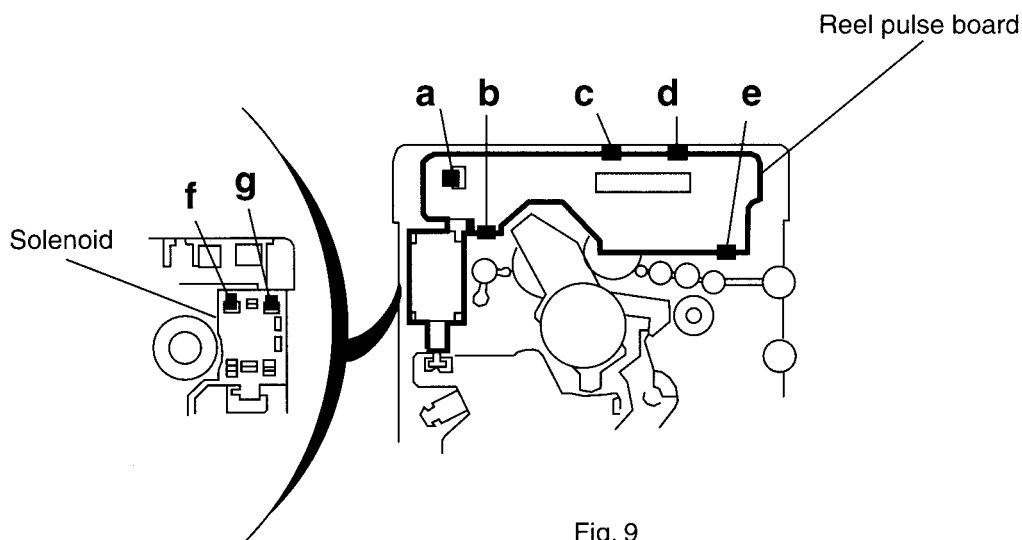

Fig. 9
■ Removing the Reel Pulse P.C. board and Solenoid (See Fig. 9)